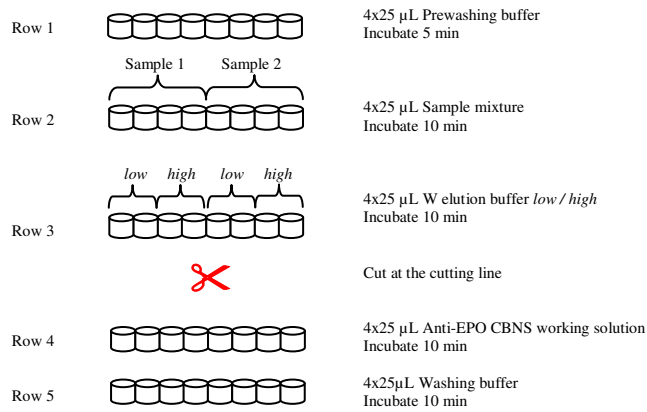

Figure 5. Sample test setup for 2 samples. Volume for 1 sample.
7. Place microtiter wells into Nunc Frames. Dispense Prewashing buffer, sample mixture, W elution buffer low and high, Anti-EPO CBNS working solution and Washing buffer at the forefront of the wells with volumes as shown in Figure 5.
8. Immerse the thin end of the strips one by one into the wells of row 1 with 5 seconds interval between each strip. Move the strips in the same order and time interval to the next row according to the incubation schedule and cutting shown in Figure 5. Do not interrupt the process until row 5.